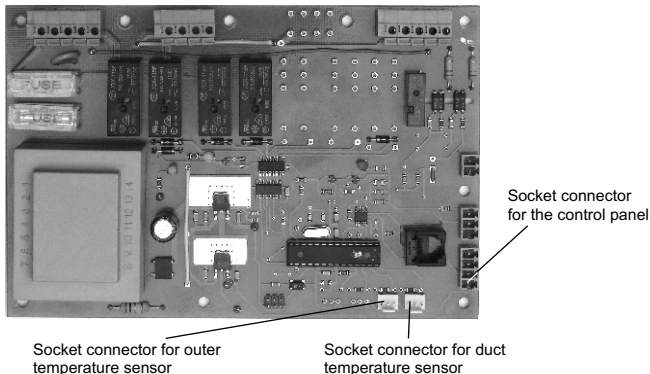

Fig. 9
On the unit side, route the cable with the connector via the electric sealed lead-in in the terminal box and snap it in the socket (Fig. 9, item 1) or connect the wires to the contacts of the socket connector (Fig. 9, item 2), depending on the control panel modification. The unit connection is performed with a socket connector (Fig. 9, item 2).